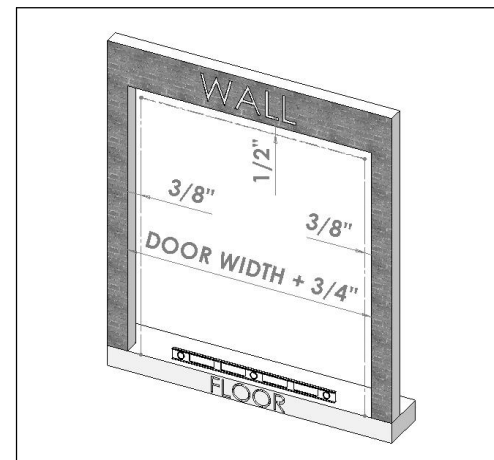

FIGURE 1
**1-** Measure the opening for proper clearance between the vinyl frame and rough opening. There should be 3/8" space on the sides and 1/2" at the top.(FIGURE 1)